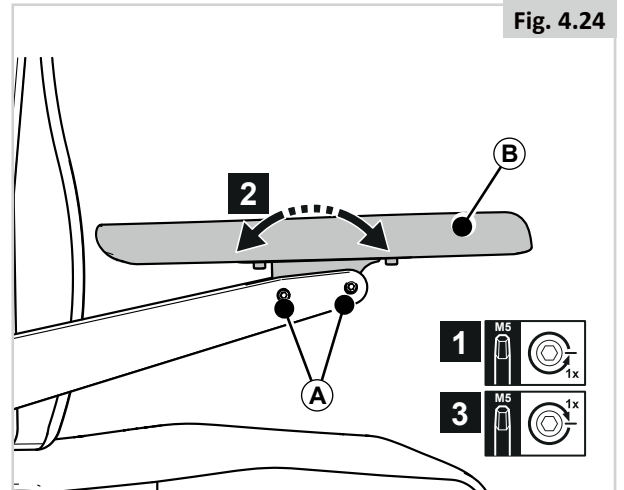

Fig. 4.24
#### PART 2 (Fig. 4.24)
In order to reach the rear screw in lower armrest heights, loosen screws (A) of Fig 4.24 and adjust the angle of the pad first.